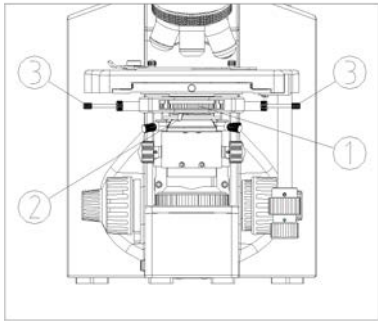

Fig. 27
For phase contrast observation, rotate the correct phase contrast ring into place ① for the objective in the light path. For brightfield observation, rotate the phase contrast ring ① to the “BF” position. (see Fig. 27).
- (1) Rotate the 10X phase contrast objective into the light path, then rotate the condenser until the 10X phase contrast ring is in position.
- (2) Turn the aperture diaphragm lever ② to the fully open position
- (3) Focus on specimen.
- (4) Remove eyepiece and insert a CT (centering telescope) into the eyetube without diopter adjustment.
- (5) Loosen the lock screw of the centering telescope, move the telescope tube up and down until the image of the halo ④ and phase ring ⑤ are in focus, then lock the screw. (See Fig. 27 & 28)